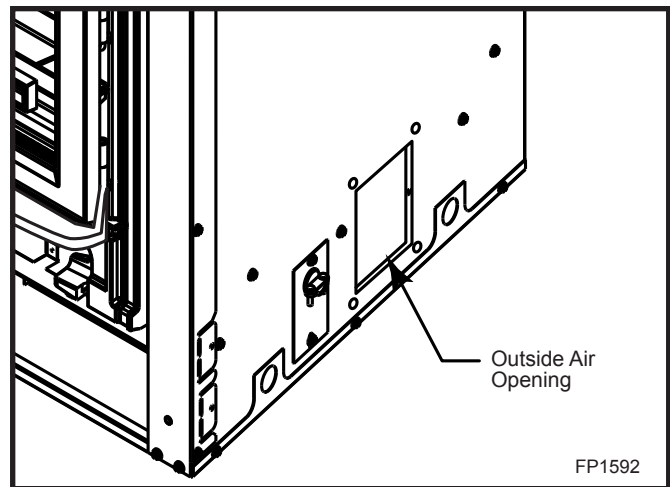

Fig. 16 Attach the inlet collar.
2. Use the screws removed from the cover plate to attach the inlet collar to the side near the bottom of the fireplace. (Fig. 16) Slide the duct over the collar and attach the duct to the collar using the plastic tie straps or three (3) screws (screws not provided). Continue to assemble duct sections using three (3) screws at each joint until you have installed sufficient duct to reach the duct termination location.